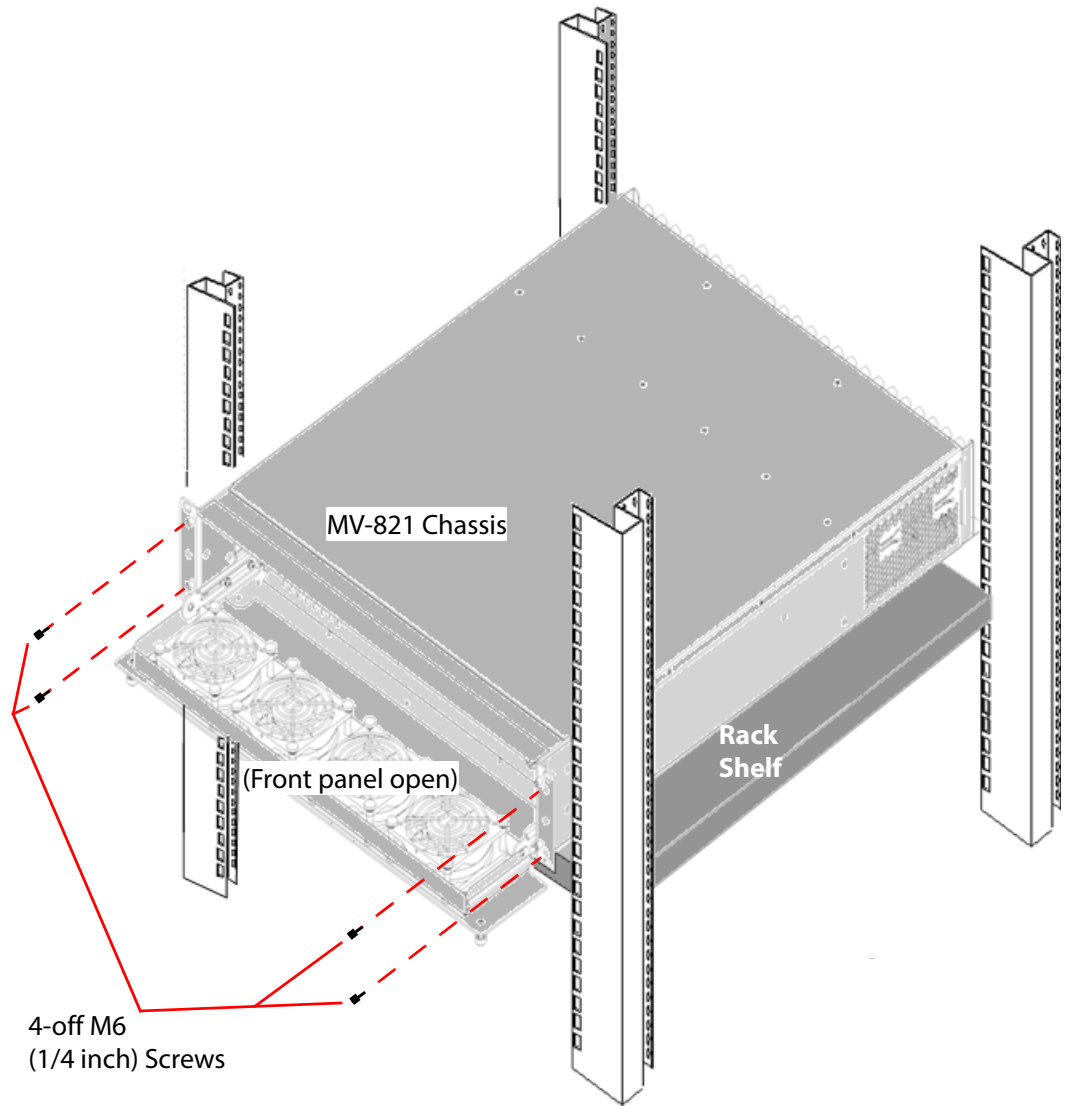

Fig. 3-4: Rack Mounting MV-821 Multiviewer.
- 5 Secure the MV-821 Multiviewer chassis in the rack at each mounting hole using 4-off M6 (1/4 inch) screws. See Figure 3-4. (Screws are available from rack suppliers.)